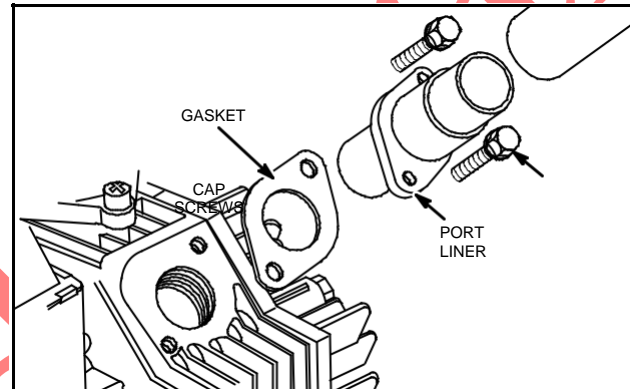

Fig. 6 – Removing Port Liners
Remove two (2) cap screws, port liners and gasket, Fig. 6. Penetrating oil may be required to loosen and prevent galling port liner mounting threads.